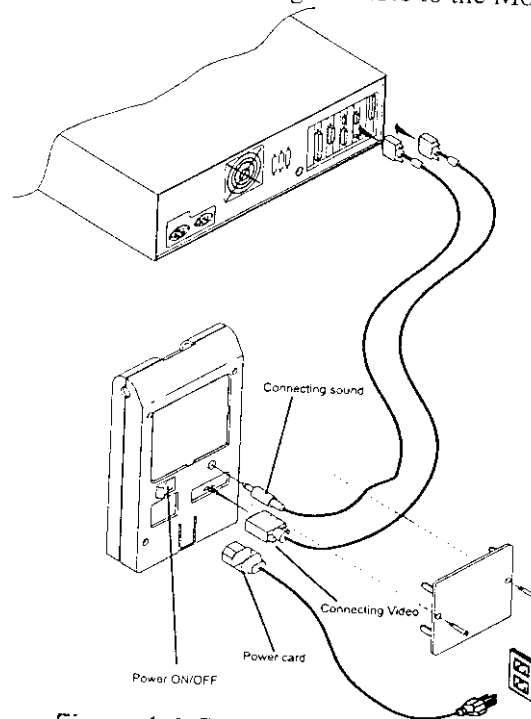

Figure 1-4: The Computer Connection
3. Locate the Monitor's port. It is found on the rear side of the LCD Monitor. If you are having trouble locating it, please refer to *Figure 1-4*.
A ferrite-loaded interface cable is included in the LCD Monitor package. Please attach the cable as shown in Figure 1-4.
Please refer to *Figure 1-4* and the following instructions for connecting AC power to the LCD Monitor.
Please refer to *Figure 1-4* and the following instructions for connecting the LCD Monitor's stereo speakers.